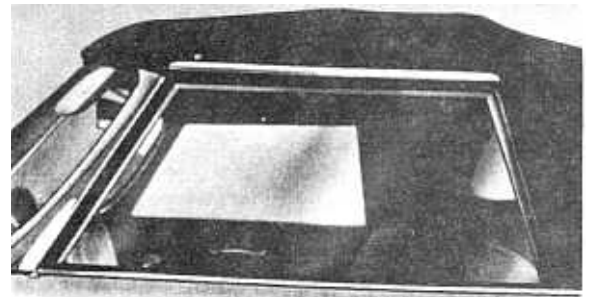

Fig. 52
8. Compare position of door post with door window inclination and top frame (distance approx. 0,59 in., 15 mm) (see fig. 52), if necessary, correct by inserting shims underneath window post bottom. For correction, fastening bolts must be untightened.